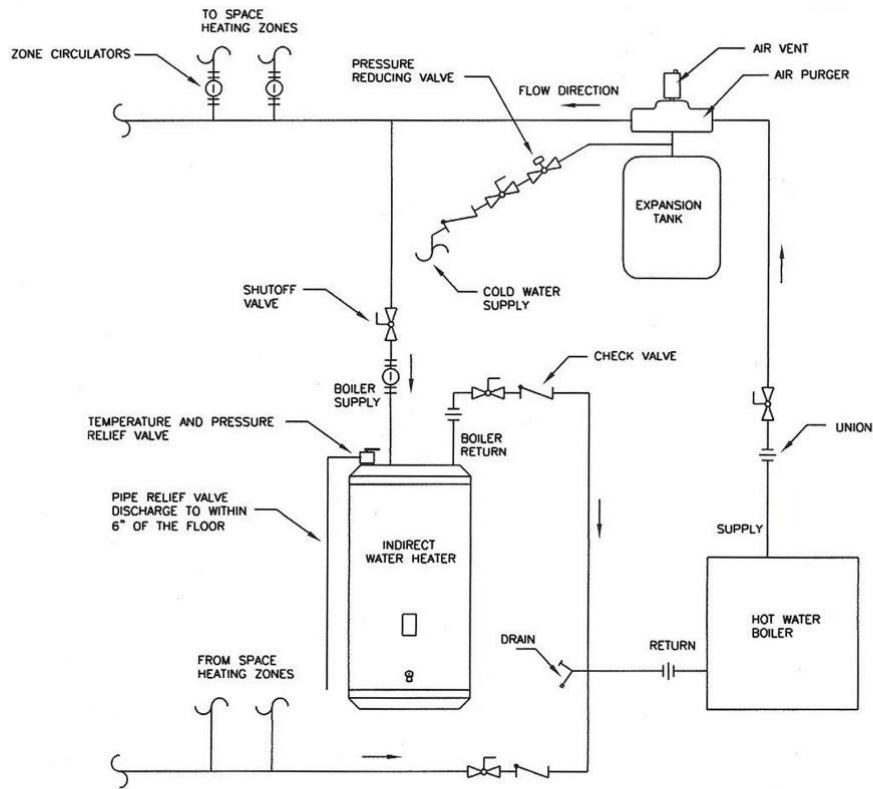
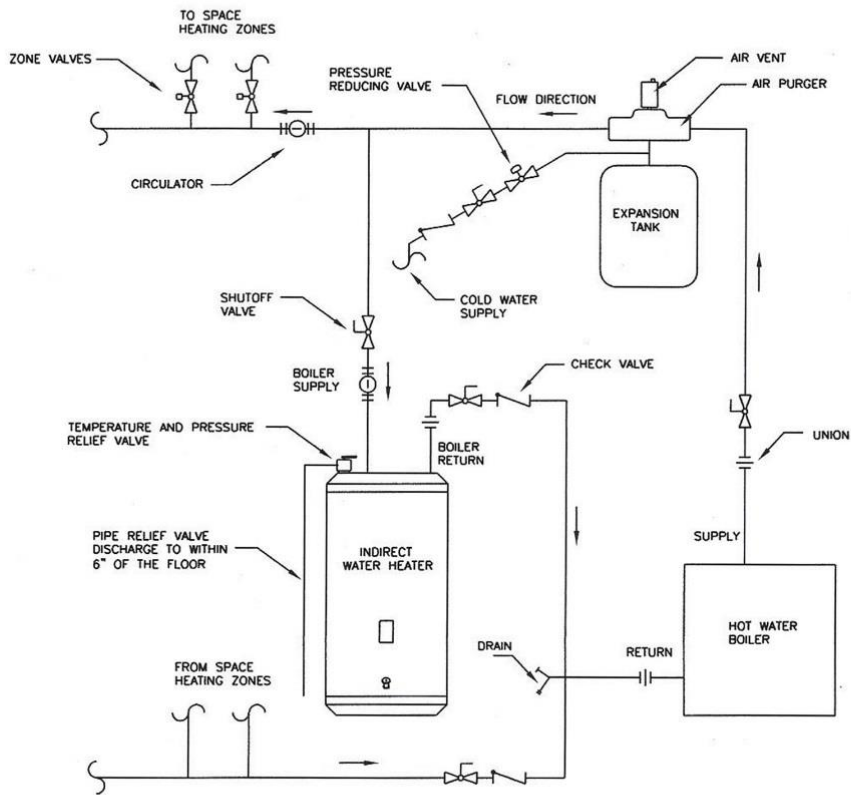

FIGURE 2 – BOILER WATER PIPING WITH ZONE CIRCULATORS
FIGURE 3 – BOILER WATER PIPING WITH ZONE VALVES
WATER BOILER PIPING (Refer to Figures 2, 3 on Pg. 10)
1. Determine where the boiler, the space heating, and the water heater connections should be made based on the type of piping system that is either in place or is to be installed for a new hydronic system installation. See Figure 2 (Boiler Water Piping with Zone Circulators) and Figure 3 (Boiler Water Piping with Zone Valves).
For space heating systems that use Zone Circulators, refer to Figure 2. The water heater connection labeled "BOILER SUPPLY" should be piped to the boiler supply piping after the air purger and before the space heating takeoffs. Mount the water heater circulator as close to the water heater as possible, and make sure the flow arrow points toward the water heater. The use of shut-off valves is recommended for future service convenience.
For a space heating system that uses Zone Valves, refer to Figure 3. The water heater connection labeled "BOILER SUPPLY" should be piped to the boiler supply piping after the air purger and before the space heating circulator. Mount the water heater circulator as close to the water heater as possible, and make sure the flow arrow points toward the water heater. The use of a shut-off valve is recommended for future service convenience.